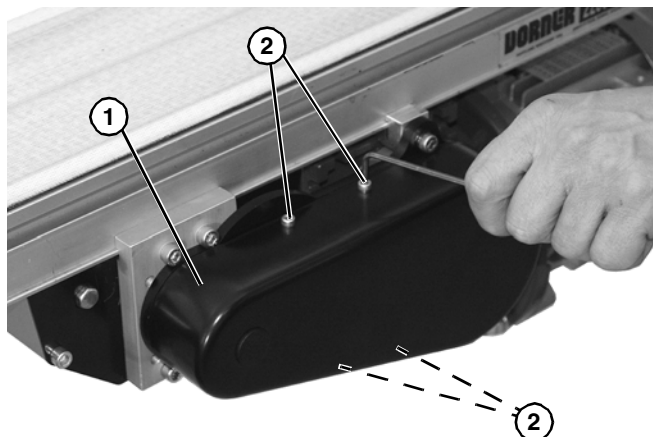

Figure 7
9. Install cover (**Figure 7, item 1**) onto drive assembly with four M4 socket head screws (**Figure 7, item 2**). Tighten screws to 35 in-lb (4 Nm).